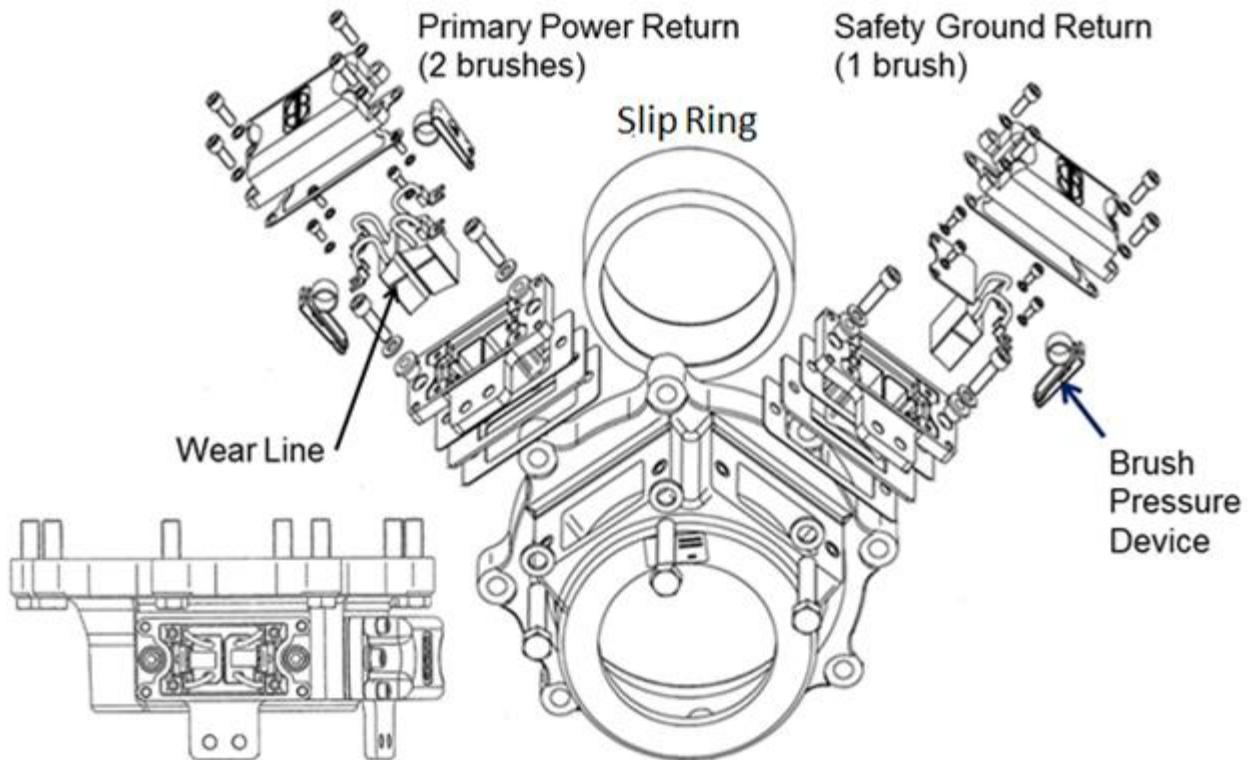
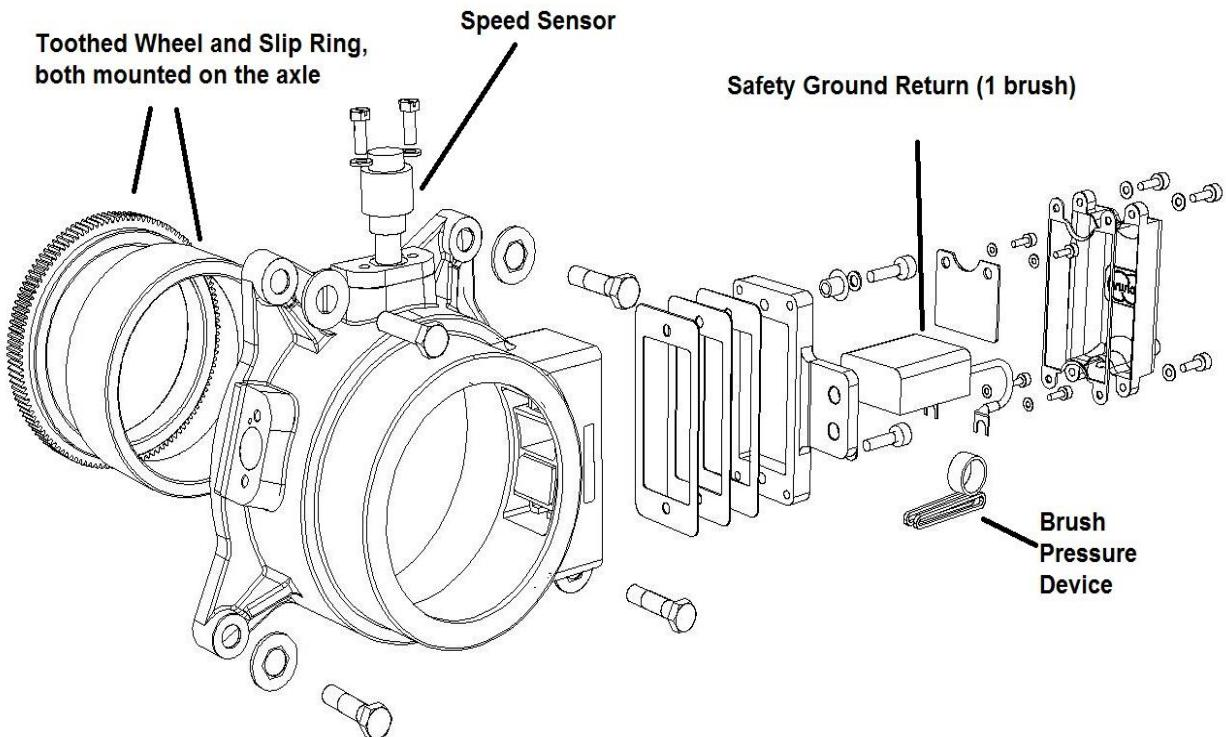

Figure 4-13: Ground Brushes, Motor Axles
Figure 4-14: Ground Brushes, Trailer Axles
3. Open the housing and remove the ground brushes. Remove the brush pressure devices by pressing the outer leg (facing away from the brush) towards the brush and lift the pressure device. The brush should now slide out. See Figure 4-13 and Figure 4-14.